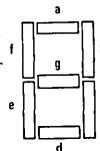

FIGURE 5. Character Display Font
**Display Multiplexing:** Outputs from each counter are time-division multiplexed to provide digit-sequential access to the time data. Thus, instead of requiring 28 leads to interconnect a four digit (7 segments/digit) watch, only 11 output leads are required. The character display font and segment identification is shown in *Figure 5*. *Figure 6* shows the interconnection of a LED watch system. The 4-digit outputs, colon output and the